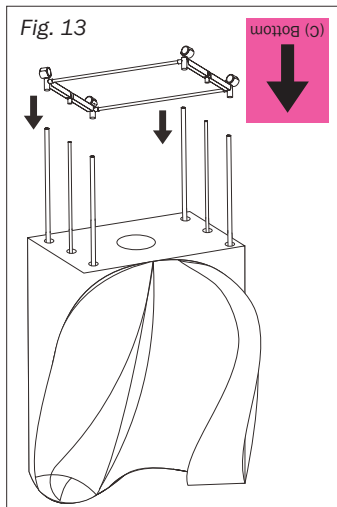

Fig. 13
10. Then attach the (C) BOTTOM module to the stainless steel tubes (Fig. 13) arrow facing down.